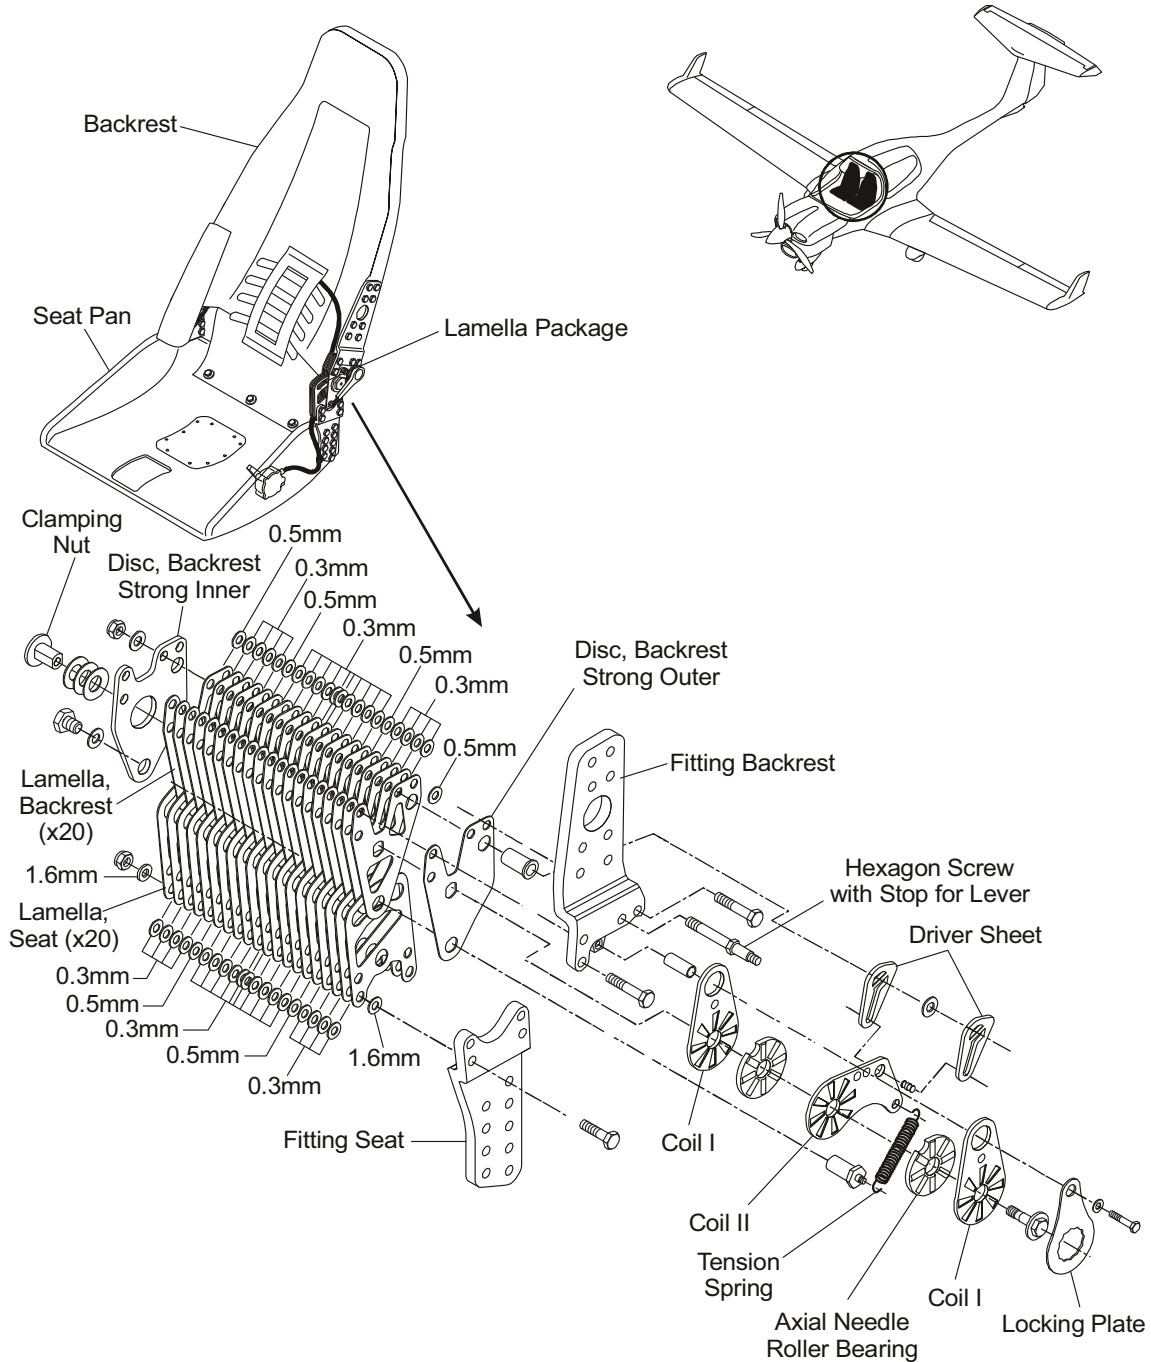

Figure 201 : Pilot's Seat Installation (if OÄM 40-252 is installed)
(1)	Arrange the seat fitting and the backrest fitting and place the seven hexagon screws (M6x32) and a hexagon screw with stop for lever as shown in Figure 201. Use some adequate bars to put under the fittings.
(2)	4 Washers	1.6 mm	Disc, Backrest Strong Outer	1.6 mm
(3)	Stick the bolt (10 mm) through the outer backrest disc.
(4)	Lamella	0.3 mm	4 Washers	0.5 mm
(5)	4 Washers	0.3 mm	Lamella	0.3 mm	Repeat Steps (5) and (6) four times
(6)	Lamella	0.3 mm	4 Washers	0.3 mm
(7)	4 Washers	0.5 mm	Lamella	0.3 mm
(8)	Lamella	0.3 mm	4 Washers	0.5 mm
(9)	4 Washers	0.3 mm	Lamella	0.3 mm	Repeat Steps (9) and (10) four times
(10)	Lamella	0.3 mm	4 Washers	0.3 mm
(11)	4 Washers	2 x 0.3 mm	Lamella	0.3 mm